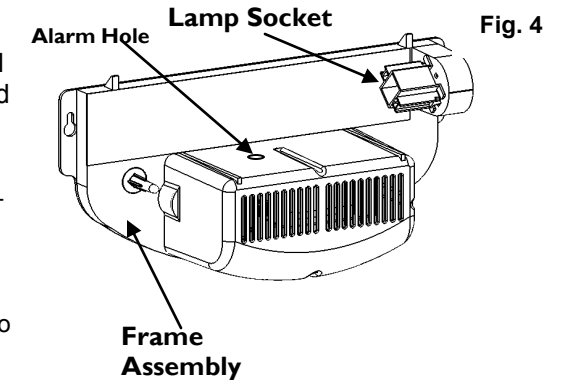

Fig. 4
3. Insert new lamp and firmly snap-in socket (see page 5, Fig. 4 & 5).
1. Remove the ultraviolet lamp from the box. Insert the lamp into the lamp socket by aligning the pins of the lamp with the light socket and snap in firmly. (Fig. 4 & 5)
The Paraclipse Fly Patrol™ has an out of paper sensor that emits an audible beep when it is time to replace the cartridge. The alarm is triggered when the paper no longer covers the alarm hole in the top of the motor enclosure. (see Fig. 4)